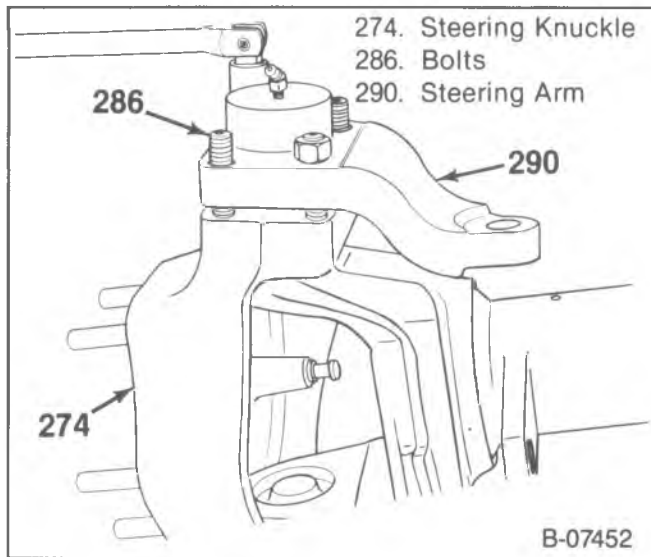
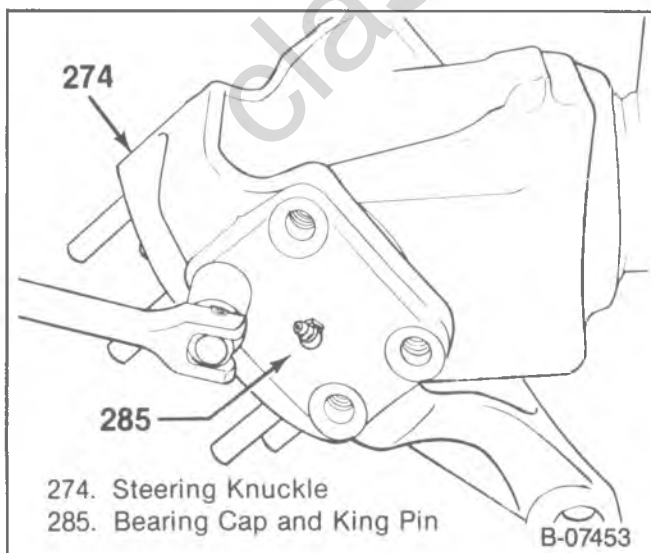
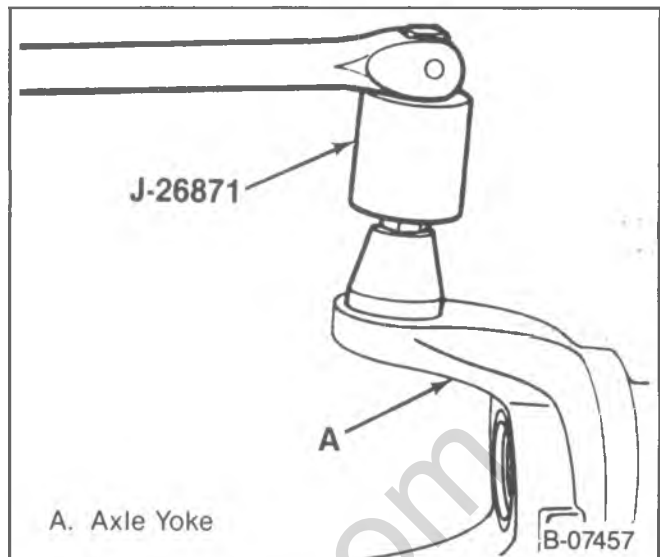
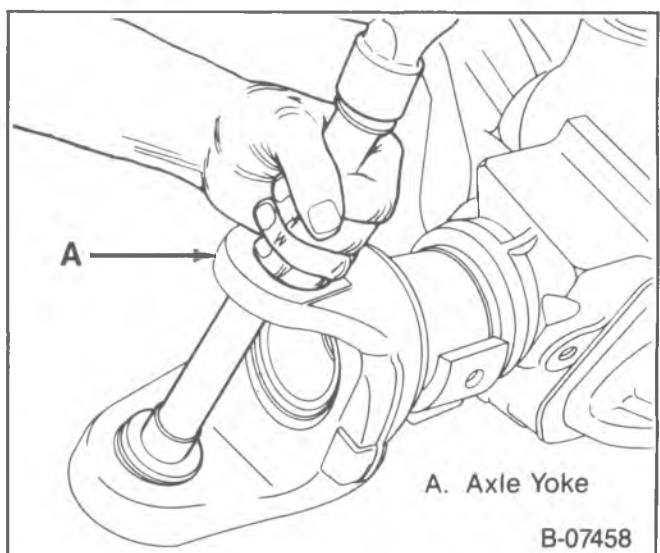

Figure 52—Removing the Cap and Steering Arm Fasteners
Figure 53—Removing the Lower Bearing Cap and King Pin
Figure 54—Removing the Upper King Pin
Figure 55—Removing the Retainer, Race, Bearing and the Seal
- For the steering arm, remove the nuts (291) alternately as the compression spring will force the steering arm up (figure 52).
5. Gasket (289), and compression spring (288).
- Discard the old gasket (289).
6. Lower bearing cap and king pin (285).
- Bolts (271) and washers (272) (figure 53).
7. Upper king pin bushing (287).
- Pull it out through the steering knuckle (274).
8. Steering knuckle (274) from the axle yoke.
- Seal (301).
9. Upper king pin (279) from the axle yoke.
- Use a large breaker bar and J-26871 (figure 54).
10. Retainer (281), race (282), bearing (283) and the seal (284) from the axle yoke.
- Punch all the components out at once (figure 55).
- Discard the old seal (284).
- If the retainer (281) is damaged, discard it.